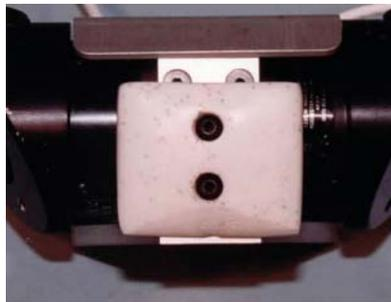

Figure 11.12- Front Casting
10. Attach the Front Pelvic Casting (T1PLM219) to the front plate using two #10-32 x 5/8" BHSCS {1/8}, as shown in **Figure 11.12**. At this stage, this assembly is referred to as the pelvic box assembly.